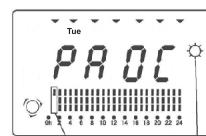

Fig. 15
- Operation in Comfort-2 mode on Tuesday from 0:00 to 01:00 hours in the morning (fig.15)